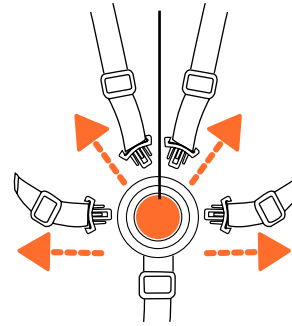

Fig. 17
- 17)** • Push Button on Center Clasp, the four Harness Buckles will pop free (Fig. 17).